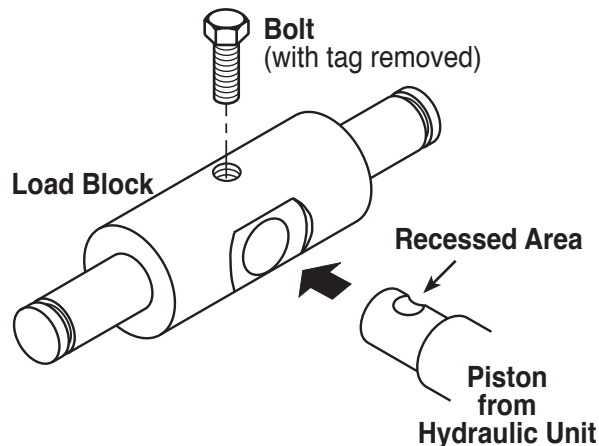

Figure 1
2. Loosen the bolt (15) and remove the tag from the load block (18).
3. Install the hydraulic unit (3) into the load block until the piston bottoms, with the recessed area in the piston pointing up toward the bolt. See Figures 1 and 2.